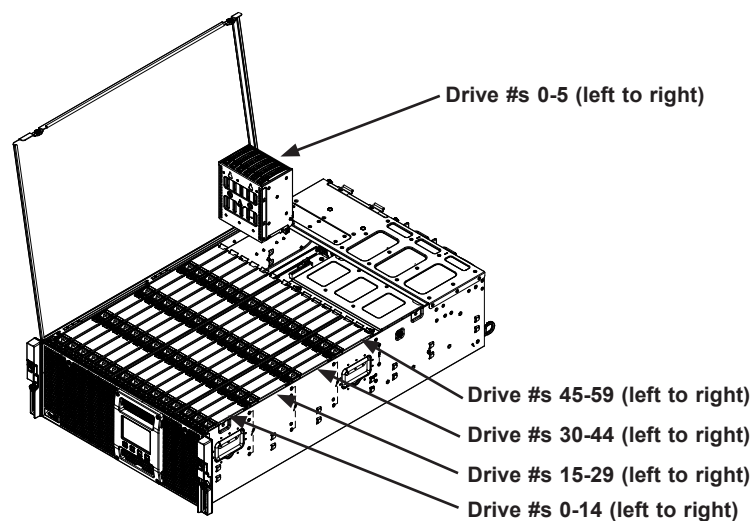

Figure 3-4. Logical Numbering of Hard Drive Layout
- **IPMI > Server Health > NVMe SSD** – Shows the temperatures of all NVMe drives, as in Figure 3-4.